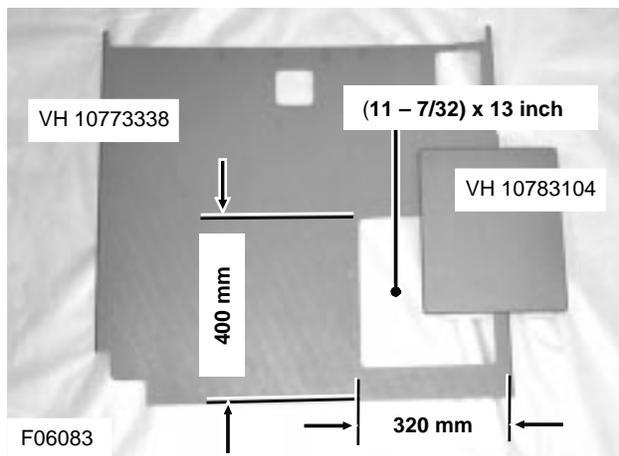

Figure 24: Modified main trim panel VH 10773338 and door lock closing panel VH 10783104
- 1) Using a high speed cutter, enlarge the door lock access opening in the main trim panel to 19-3/4 inch (400 mm), measured from the bottom edge of the panel, and 12-19/32 inch (320 mm) from the right hand (door lock) edge of the panel. The opening should measure 11-7/32 inch wide by 13 inch high (285x330 mm – see Figure 24).